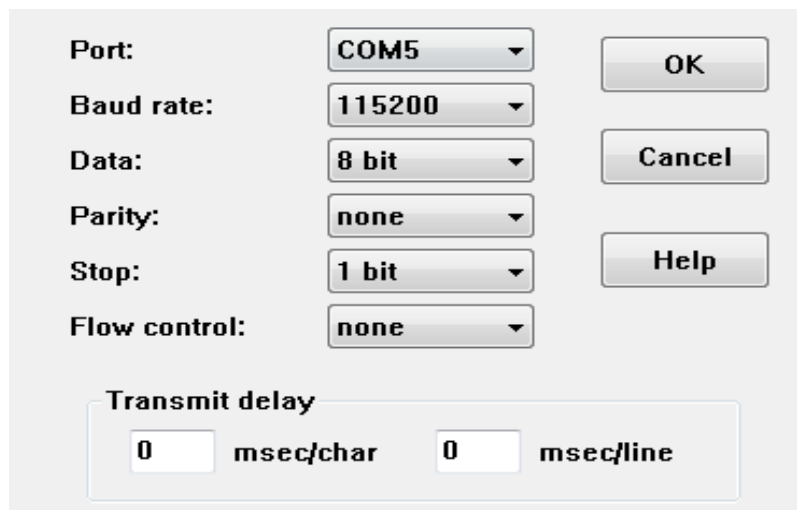

Figure 2-2 : COM Port Settings
3. Open a terminal program such as HyperTerminal. Setup the terminal program as shown in Figure 2-2.